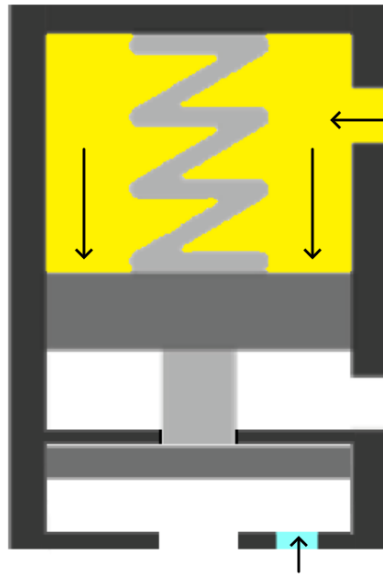

Figure 04 – Double Effect Resting Phase
In the case of double acting, the working mode is like that of single acting, except that, in addition to the spring to keep the valve closed, there is a pneumatic pressure from the closing inlet of the valve (Figure 04). This is used if you have to work with fluidic pressures higher than that exerted by the spring.
- The fluid is under pressure in the fluidic inlet and resting on the membrane; in the case of a single effect, with only the spring pushing to close the fluid outlet (Figure 03), in the case of a double effect, with also the pneumatic pressure (Figure 04);